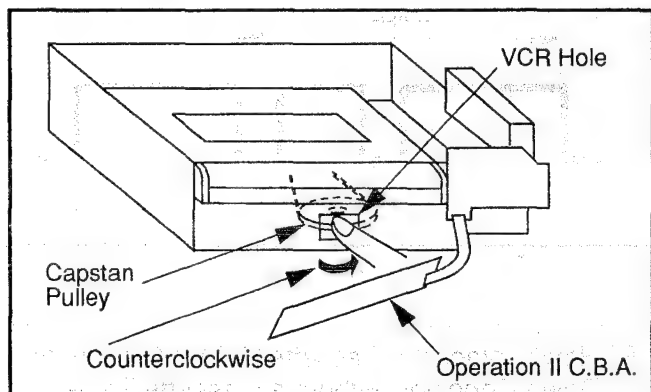

Fig. 9
9. Turn Capstan Pulley counterclockwise from VCR hole as shown in Fig. 9 to wind the Tape Slack into the cassette.